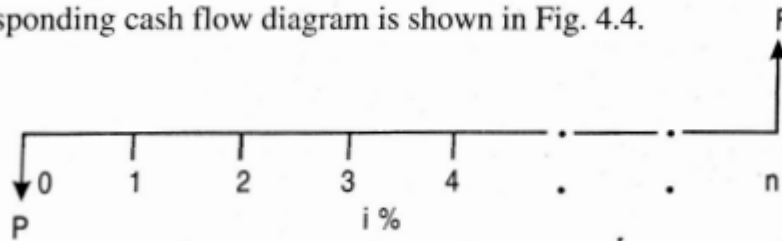

Fig. 4.4 : Cash flow diagram of single-payment present worth amount
Here, the objective is to find the present worth amount (P) of a single future sum (F) which will be received after n periods at an interest rate of i compounded at the end of every interest period. The corresponding cash flow diagram is shown in Fig. 4.4.